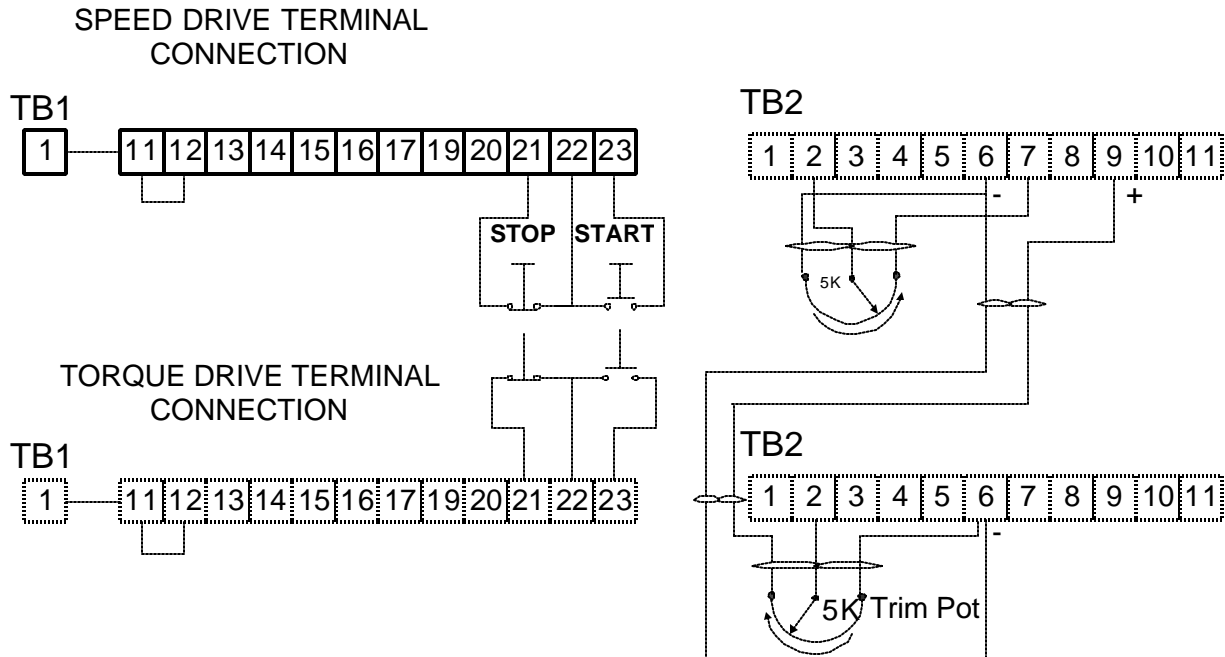

Figure 3.2.1b. Terminals Connection using SPEED POT for section 3.2.1b
- ? If you want to adjust the output torque externally than set **P312**, "Internal Torque" to **100%** and connect a 5K trim pot as shown figure 3.2.1b.